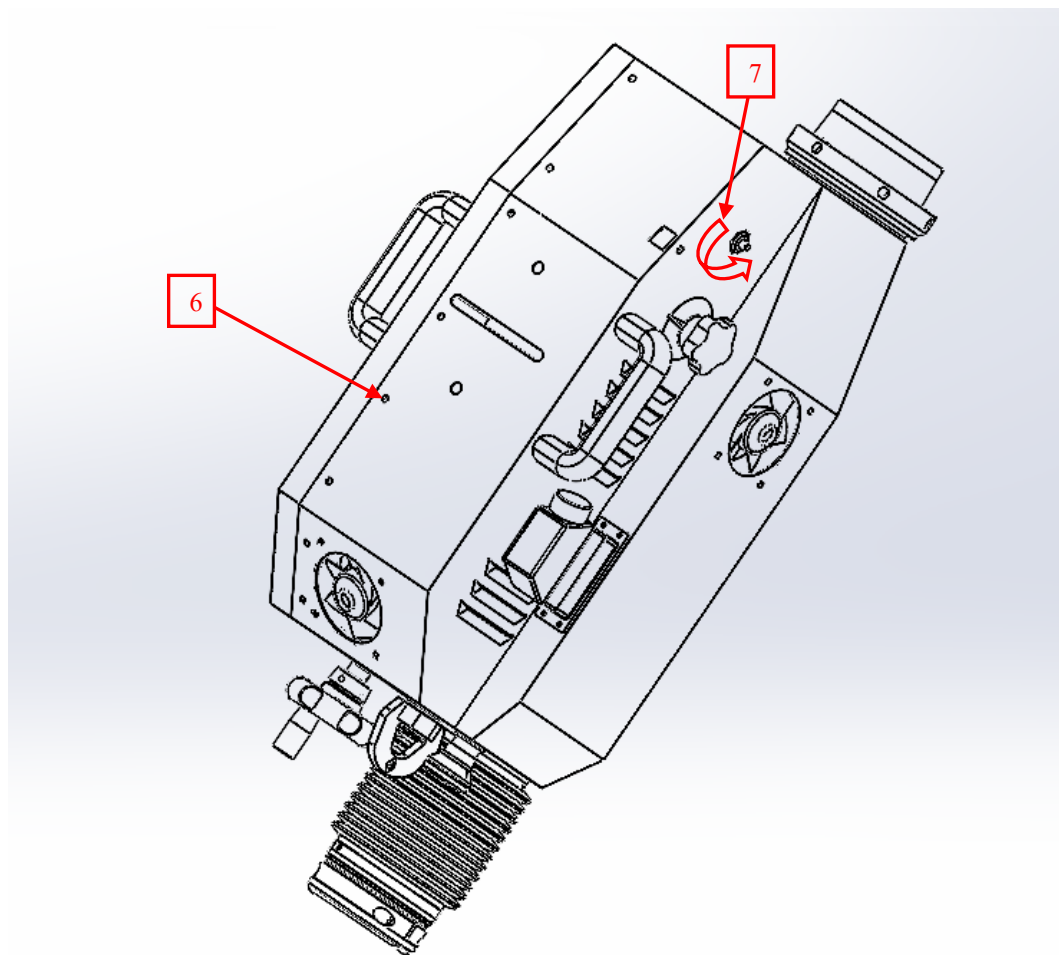

Figure 5.3
- 5.1.7 Unscrew the screws securing the housing at the top, as shown in figure 5.3 - position 6;
- 5.1.8 Unscrew the fixing nut, as shown in figure 5.3 – position 7;